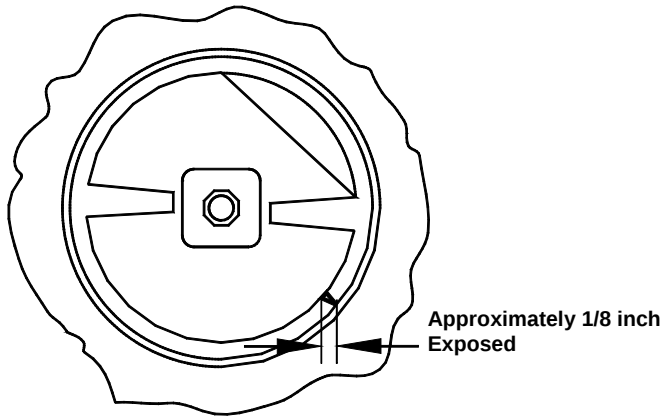
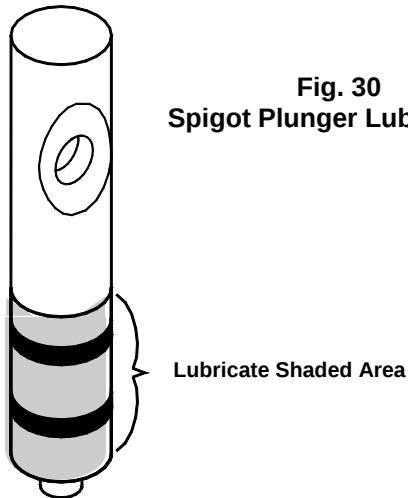

Fig. 29
Fig. 30
Note: The stator rod has been deleted from Fig. 29 and Fig. 30 for clarity only. The stator rod must be installed for proper machine operation.
- h. While maintaining force against the dasher, rotate it slowly until the tongue of the dasher engages the groove in the drive system at the rear of the cylinder. The outer most portion of the dasher should be recessed approximately 1/4" (6 mm) to 3/8" (10 mm) inside the freezing cylinder. No part of the dasher should extend outside the cylinder. Scraper blades should be visible, extending approximately 1/8" (3 mm) beyond the dasher (Fig. 29).
- a. Install the two o-rings on the spigot plunger by rolling them onto the plunger. Seat the o-rings in the grooves. Be certain that they are not twisted. Smooth the lubricant into the grooves and over the sides of the plunger assembly (Fig. 30).